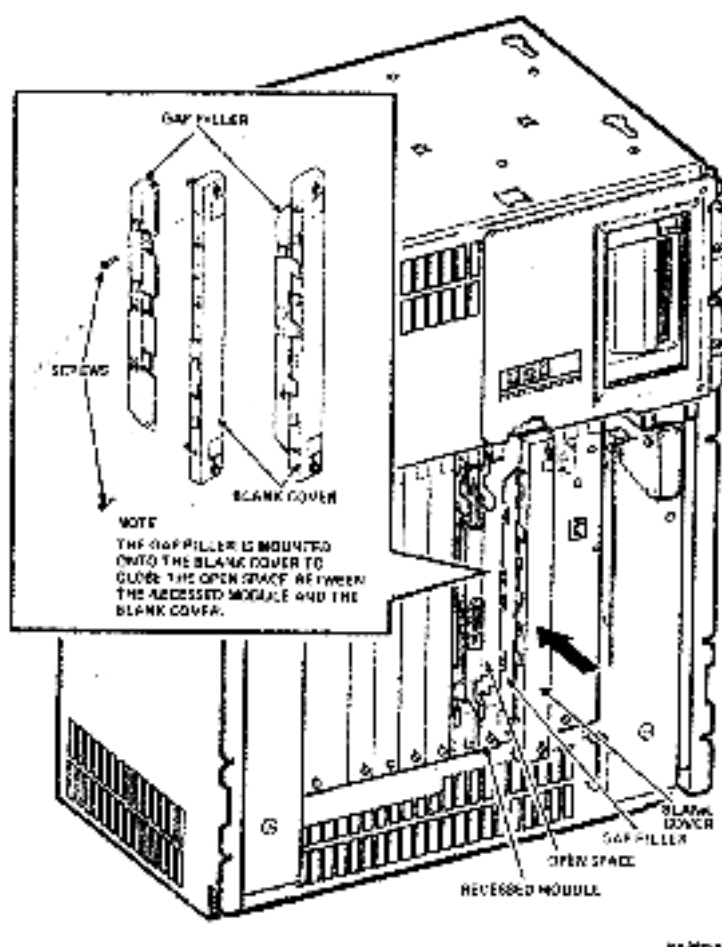

Figure 2-9 Ground Connections
2. If so, make sure a gap filler assembly is installed on the side of the blank cover or flush handle that is next to the recessed-handle module (Figure 2-9).